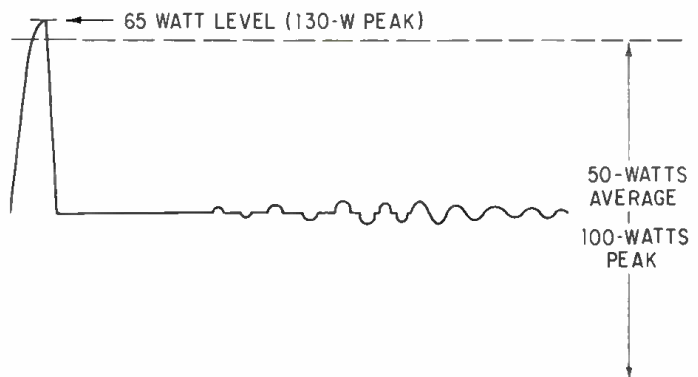

Figure 2. This 50-watt amplifier has been pushed into saturation. As it recovers it rectifies the signal.
So on guitar music, before the gain was as high on this amplifier as it was on the 15-watter while still sounding good, the pluck sound momentarily pushed the 50-watter into saturation. It didn't recover for almost a second, and as it recovered, it rectified signal that the 15-watter reproduced undistorted (FIGURE 2)
Figure 2. These are portions of British Patent Number 394325 (Alan D. Blumlein, 1933). The patent illustrates the various ways of making sum and difference channels for the purpose of converting a vertical-lateral system to 45/45. In (A) the area within the dashed lines is a common three-coil hybrid transformer; (B) is the diagrammatic representation of (A); (C) shows a double matrix in series with a lossy gain control in each channel — its advantage lies in the fact that the sum or difference vectors can be modified by the gain controls and the resultant sum and difference rematrixed in the right-hand matrix; at (D) a frequency-sensitive gain control is indicated in the difference channel — vertical as derived from a 45/45 system — and it indicates the simplest kind of frequency-sensitive reduction of vertical component.